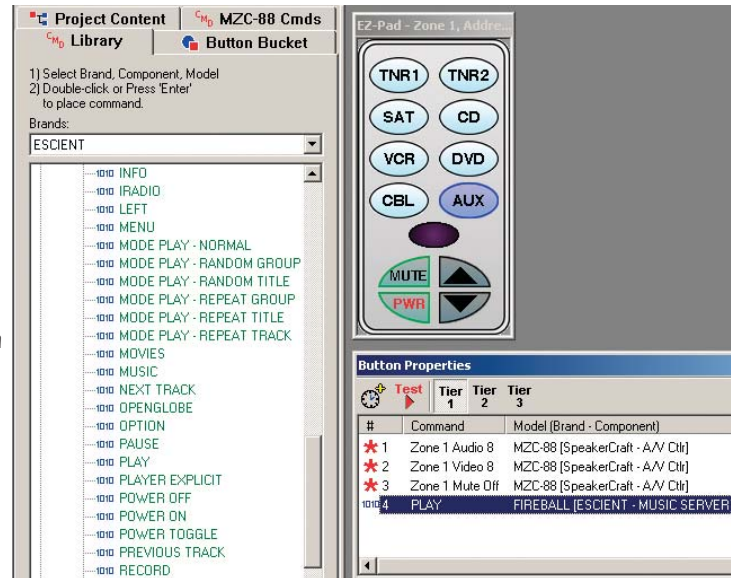

Figure 8
14. Double left click the desired RS232 command. The command will appear in the Button Properties Window. (Refer to Figure 8) If there are commands already associated with the button being programmed, the RS232 command will appear at the bottom of the list. The command